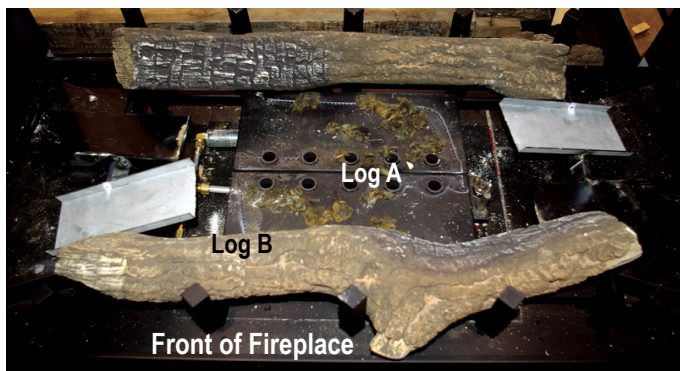

Figure 23. Log "A" & "B" Installation.
The H\*42DF\*-ST is supplied with eight (8) fibre logs. The two bottom logs ("A" & "B") are mounted on the burner grate as shown in Figure 23.